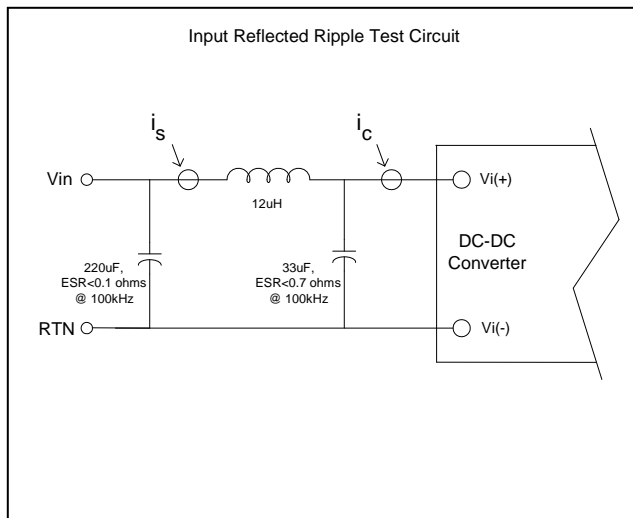

Figure 7 Test circuit used for input ripple current measurement
- (1)  $V_{in} = 48V_{dc}$ ,  $T_a = 25^{\circ}C$ , Airflow = 200 LFM unless otherwise noted.
- (2) Input Reflected Ripple Current is specified when measured with the filter shown in Figure 7.
- (3) Output Ripple Voltage and noise is specified when measured with a 10uF tantalum and a 1uF ceramic capacitor at the converter output pins.
- (4) Transient response is specified without a capacitor at the output of the converter.
- (5) If remote sense is not required or used, the Sense(+) and Sense(-) pins must be connected to  $V_o(+)$  and  $V_o(-)$  respectively.
- (6) See 'Remote Sense' and 'Trim Feature' details regarding output voltage range limitations.
- (7) Thermal shutdown is monitored at the 'Thermal Measurement Location' (TML). See 'Mechanical Information' on page 4 for the thermal measurement location.
- (8) See 'Safety Considerations'.
- (9) De-rating curves are conducted in a controlled environment. End application testing is required to ensure the Thermal Measurement Location temperature is below the maximum specified.